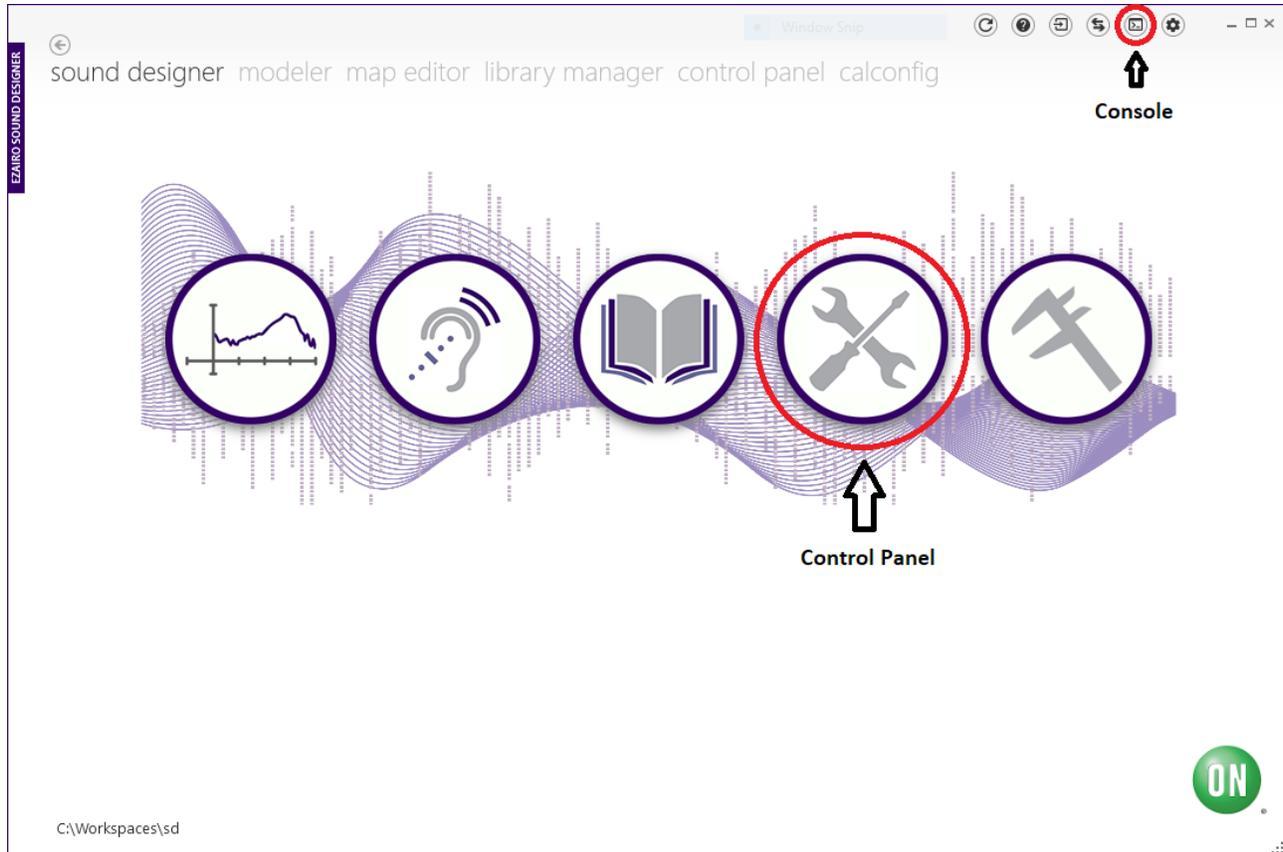
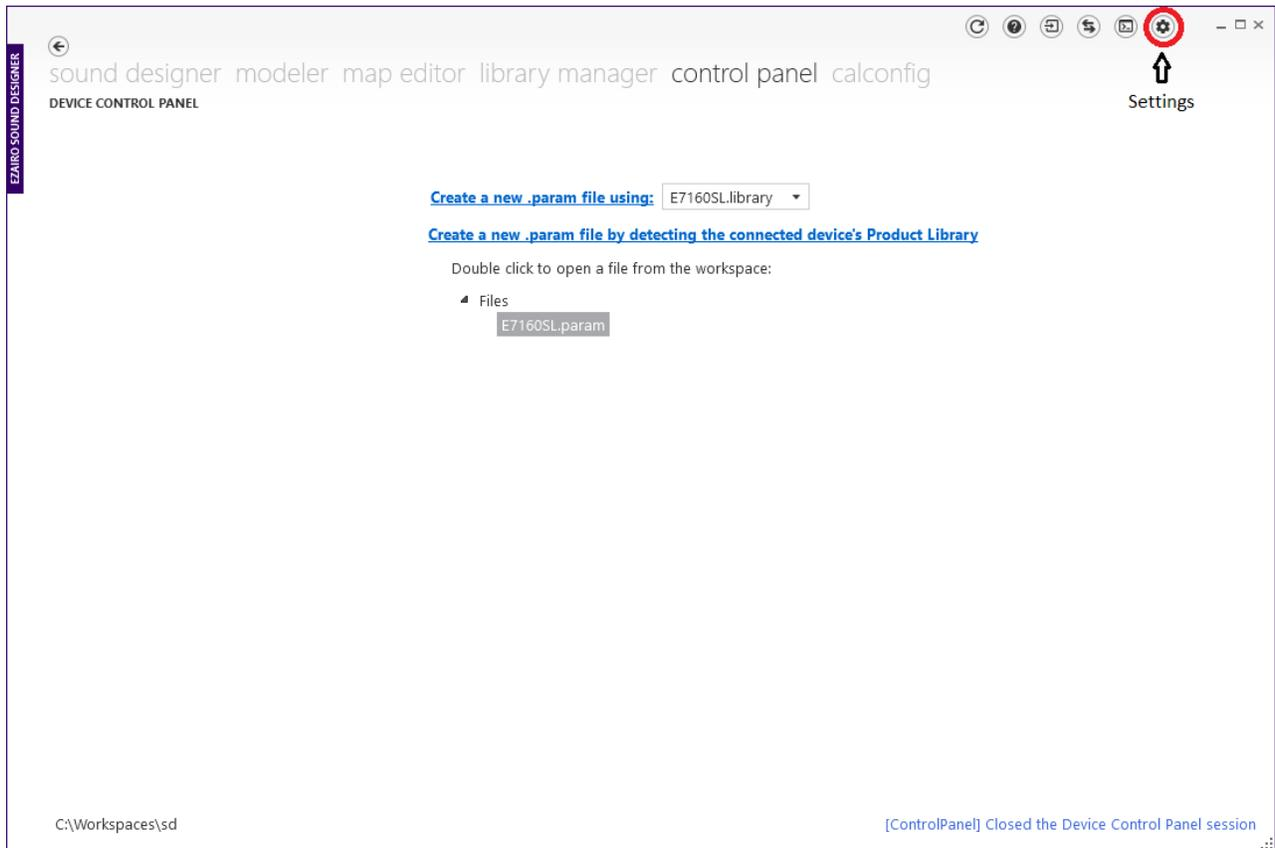

Figure 7. Opening the Control Panel and the Console Window
Figure 8. Selecting the Parameter File
- Optionally, open the console window by clicking the Show Console icon (shown in the figure "Opening the Control Panel and the Console Window" (Figure 7)). The console window displays error and status messages accumulated in this session. We recommend having the console viewable at all times while using Sound Designer Software, to get immediate status information.
- To configure device parameters, click on the **Control Panel** icon (circled in red in the figure "Opening the Control Panel and the Console Window" (Figure 7)) and, when prompted, double-click the **Ezairo7160SL.param** sample parameter file to open the demo product library, as shown below in the figure "Selecting the Parameter File" (Figure 8).